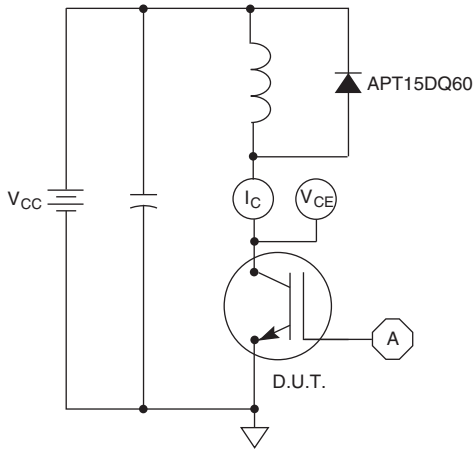

Figure 21, Inductive Switching Test Circuit
- ① Repetitive Rating: Pulse width limited by maximum junction temperature.
- ② For Combi devices,  $I_{ces}$  includes both IGBT and FRED leakages
- ③ See MIL-STD-750 Method 3471.
- ④  $E_{on1}$  is the clamped inductive turn-on energy of the IGBT only, without the effect of a commutating diode reverse recovery current adding to the IGBT turn-on loss. Tested in inductive switching test circuit shown in figure 21, but with a Silicon Carbide diode.
- ⑤  $E_{on2}$  is the clamped inductive turn-on energy that includes a commutating diode reverse recovery current in the IGBT turn-on switching loss. (See Figures 21, 22.)
- ⑥  $E_{off}$  is the clamped inductive turn-off energy measured in accordance with JEDEC standard JESD24-1. (See Figures 21, 23.)
- ⑦  $R_G$  is external gate resistance, not including  $R_{G(int)}$  nor gate driver impedance. (MIC4452)